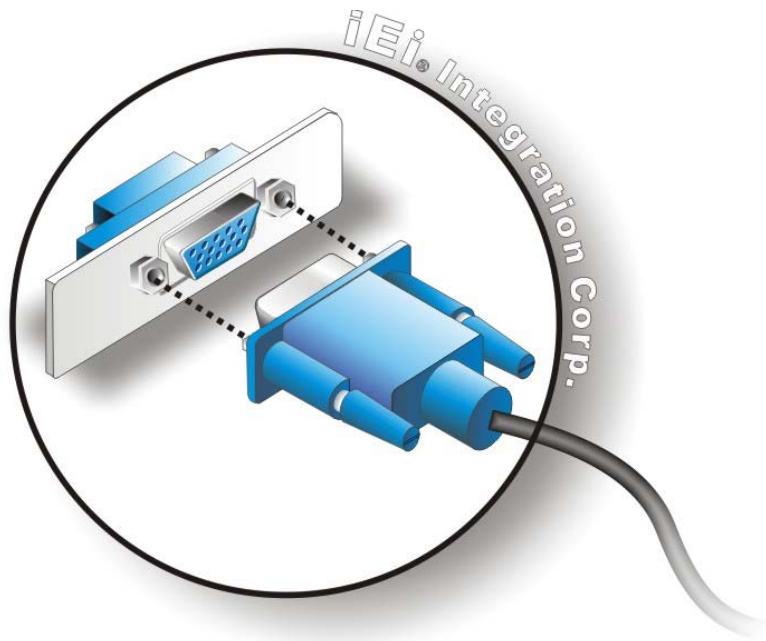

Figure 4-21: VGA Connector
Step 3: **Insert the VGA connector** Once the connectors are properly aligned with the insert the male connector from the VGA screen into the female connector on the PCIE-Q870-i2. See **Figure 4-21**.